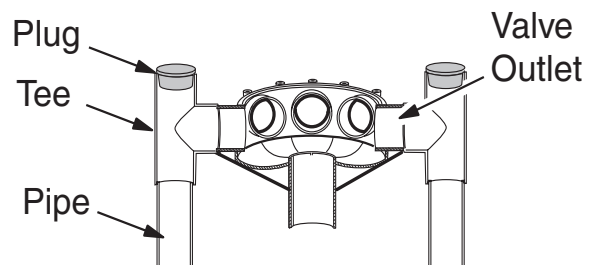

Figure 16. Expansion Plug Method
- **Expansion plug methods:** Using an air compressor/blower at the filter system, blow out the supply line to the valve. Place a #11 winterizing plug into the inlet line at the valve (see Figure 16).